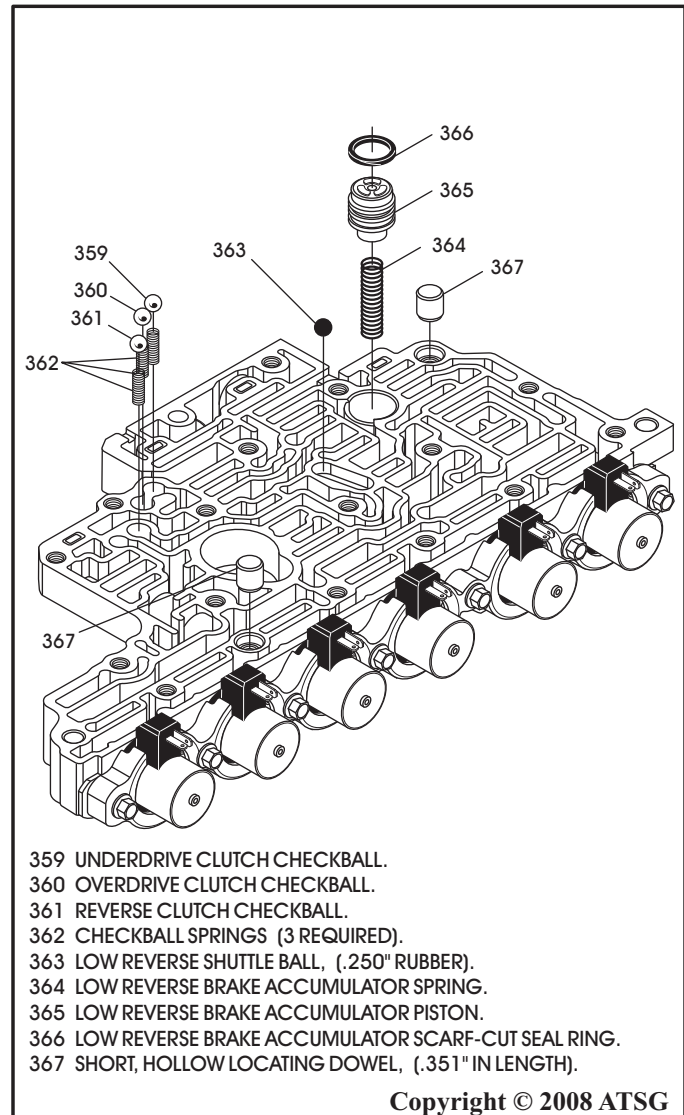

Figure 169
20. Install two short, hollow locating dowels into the solenoid body, as shown in Figure 169.
21. Install a new Teflon scarf-cut seal on the low reverse brake accumulator piston, as shown in Figure 169.
22. Install the low reverse accumulator spring and piston into the solenoid body, as shown in Figure 169.